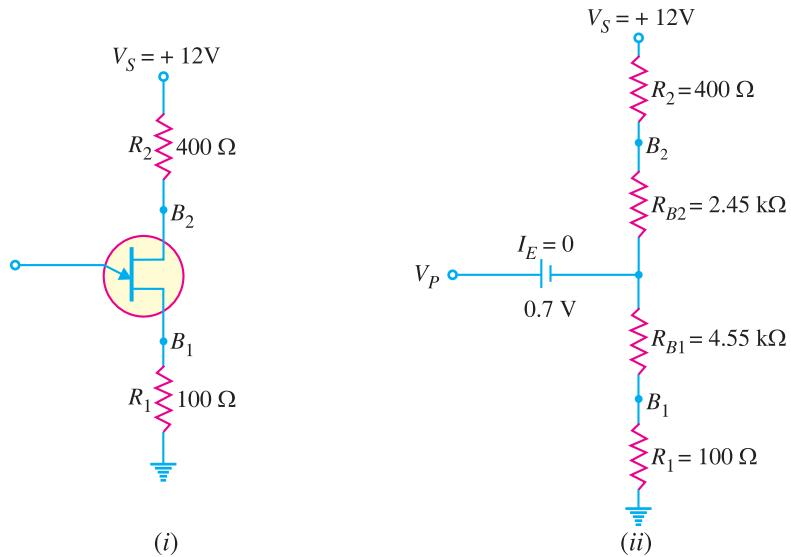

Fig. 21.29
**Example 21.10.** Fig. 21.29 (i) shows the UJT circuit. The parameters of UJT are  $\eta = 0.65$  and  $R_{BB} = 7 \text{ k}\Omega$ . Find (i)  $R_{B1}$  and  $R_{B2}$  (ii)  $V_{B1}$  and  $V_P$ .
(ii) Fig. 21.29 (ii) shows the UJT circuit model. Because UJT is OFF,  $I_E = 0$ . We can find  $V_{B2B1}$  by the voltage-divider rule.